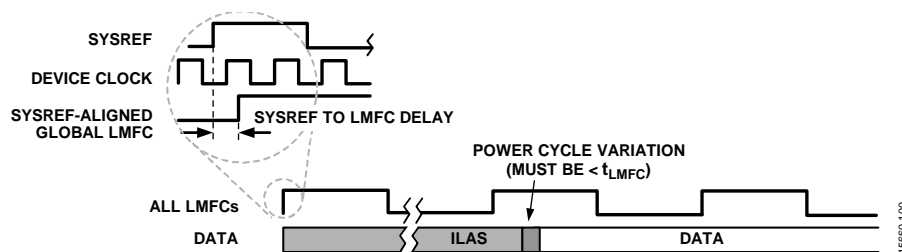

Figure 129. SYSREF± and LMFC
The JESD204B protocol organizes data samples into octets, frames, and multiframes as described in the Transport Layer section. The LMFC is synchronous with the beginnings of these multiframes. In Subclass 1 operation, the SYSREF± signal synchronizes the LMFCs for each device in a link or across multiple links (within the AD9695, SYSREF± also synchronizes the internal sample dividers). This synchronization is shown in Figure 129. The JESD204B receiver uses the multiframe
- The total latency variation across all lanes, links, and devices must be ≤ 1 LMFC period (see Figure 129). This includes both variable delays and the variation in fixed delays from lane to lane, link to link, and device to device in the system.